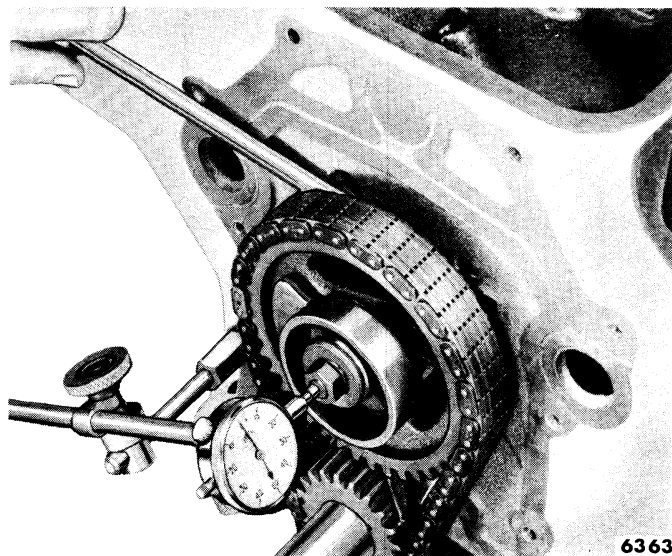

Fig. 24—Camshaft End Play Check—Typical
(4) **CAMSHAFT END PLAY CHECK.** Push the camshaft toward the rear of the engine. Place a dial indicator point against a suitable surface on the front end of the camshaft assembly (fig. 24). Set the dial to zero, then pull the camshaft forward and release it. Compare the dial reading with specifications.